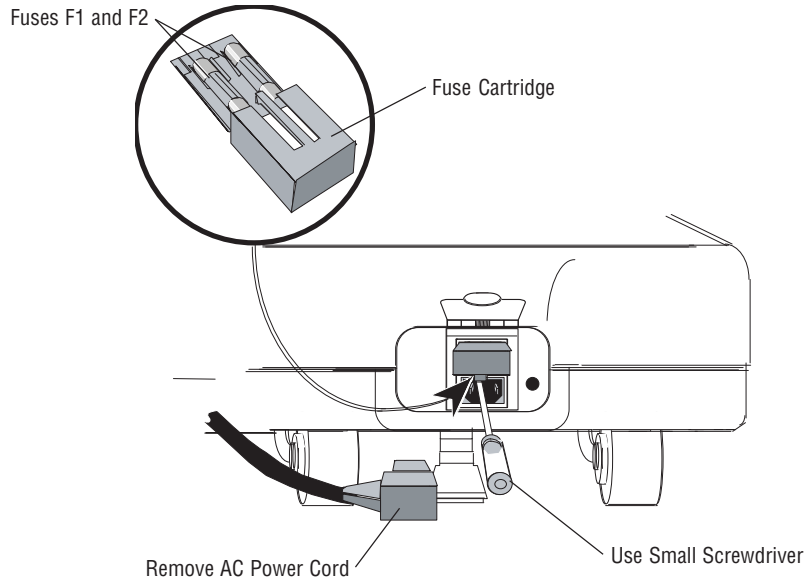

Figure 8-2. Fuse Location
1. Disconnect ac power cord from wall receptacle and table base input (see Figure 8-2).